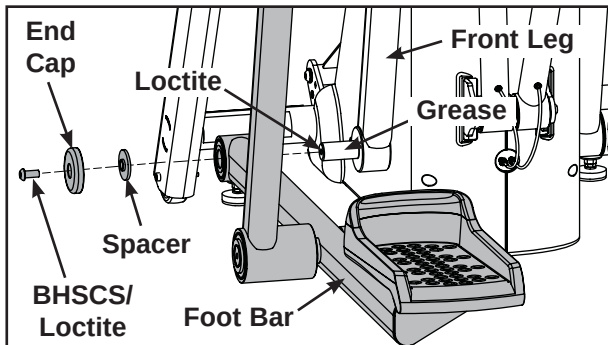

Figure 9
- C. Using a 7/32" Allen wrench, remove the BHSCS, pastic end cap and spacer securing the foot bar to the front leg. See Figure 9.
- A. Place grease on the outside of the front leg shaft. See Figure 9.
- B. Place the foot bar into position on the front leg. See Figure 9.
- C. Place a drop of loctite (E) on the BHSCS removed in step 10C and another drop inside the shaft into where the BHSCS will be tightened. See Figure 9.
- D. Using 7/32" Allen wrench, reinstall the BHSCS/loctite, plastic end cap and spacer (removed in step 10C). See Figure 9.